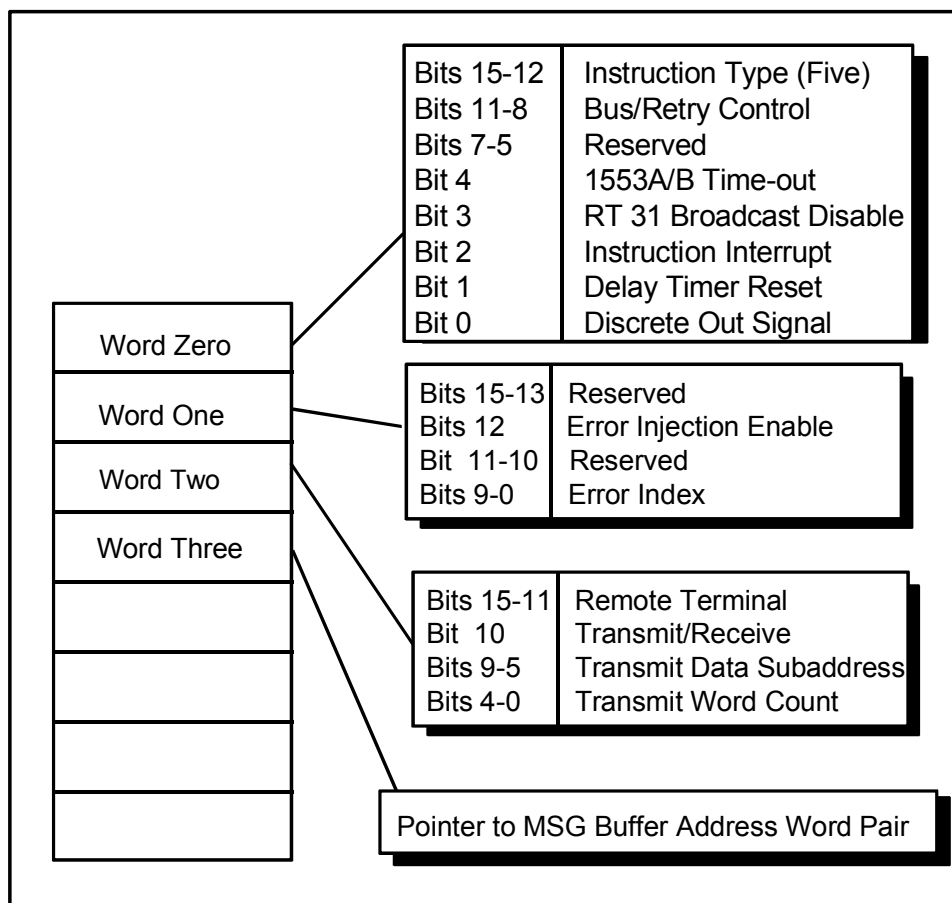

Figure 4-7 RT-TO-BC TRANSFER (Instruction 0x05)
- Bits 15-0 The message block contains the pointers where the host stores data being transmitted by the BC (Figure 4-7).
This instruction generates a Remote Terminal to Master Command on the 1553 bus. The structure of this instruction is identical to Instruction Four BC-to-RT Transfer (Figure 4-7).